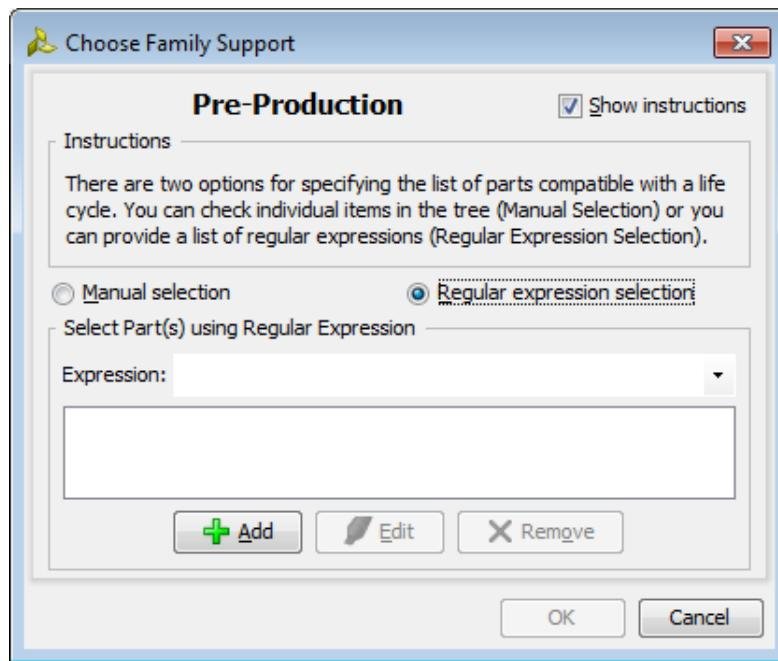

Figure 8-17: Choose Family Support with Regular Expression Selected
2. Add a part using either the **Manual selection** or the **Regular expression selection**. Figure 8-17 shows the Expression option selected.